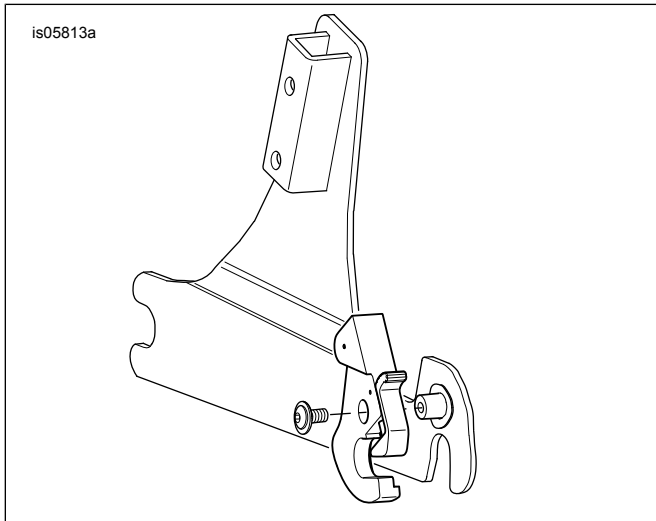

Figure 2. Sideplate Installation
1. See Figure 2. Remove right non-locking latch. Leave the right spring washer on the right mounting hub.